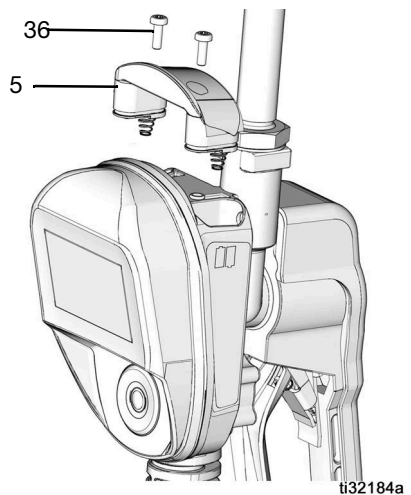

FIG. 79
5. Replace cover (5) and screws (36). Tighten screws securely (FIG. 79).